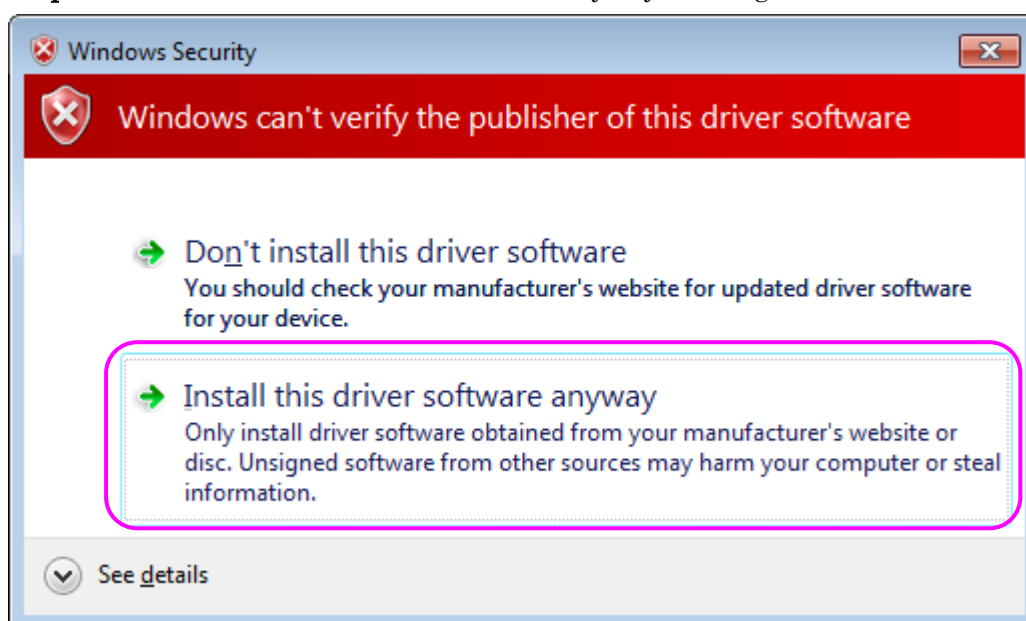

Fig.2-2
Step2: Click [Install this driver software anyway]. (Fig.2-2)